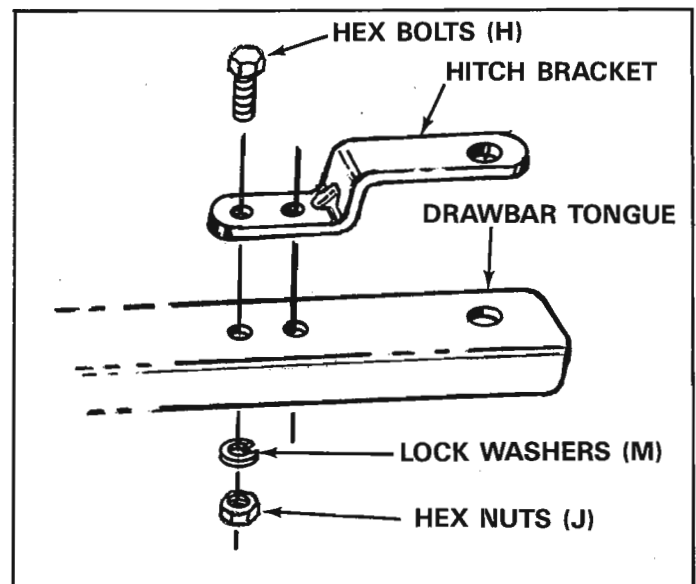

FIGURE 11
18. Assemble hitch bracket to drawbar tongue, using 3/8" x 1" long hex bolts (H), lock washers (M) and hex nuts (J). See figure 11.